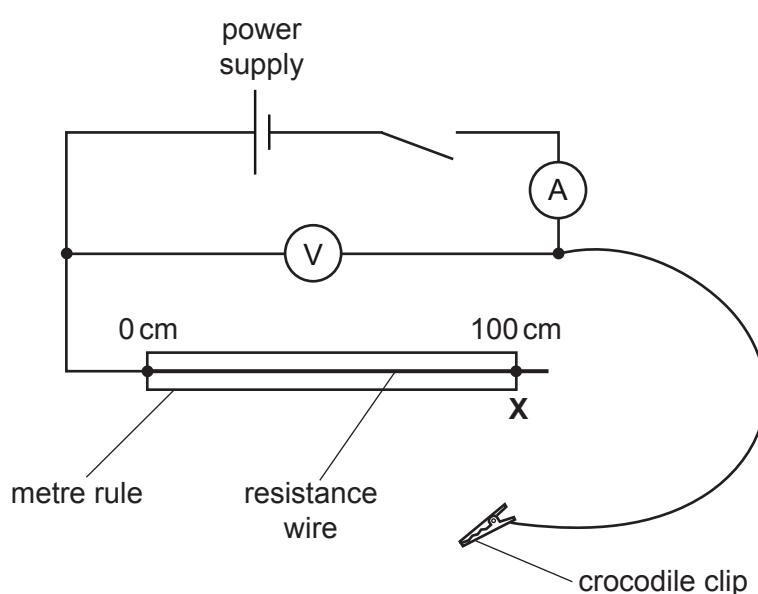

Fig. 3.1
- (vi) sufficient leads and crocodile clips to set up the circuit as shown in Fig. 3.1 (see note 3).